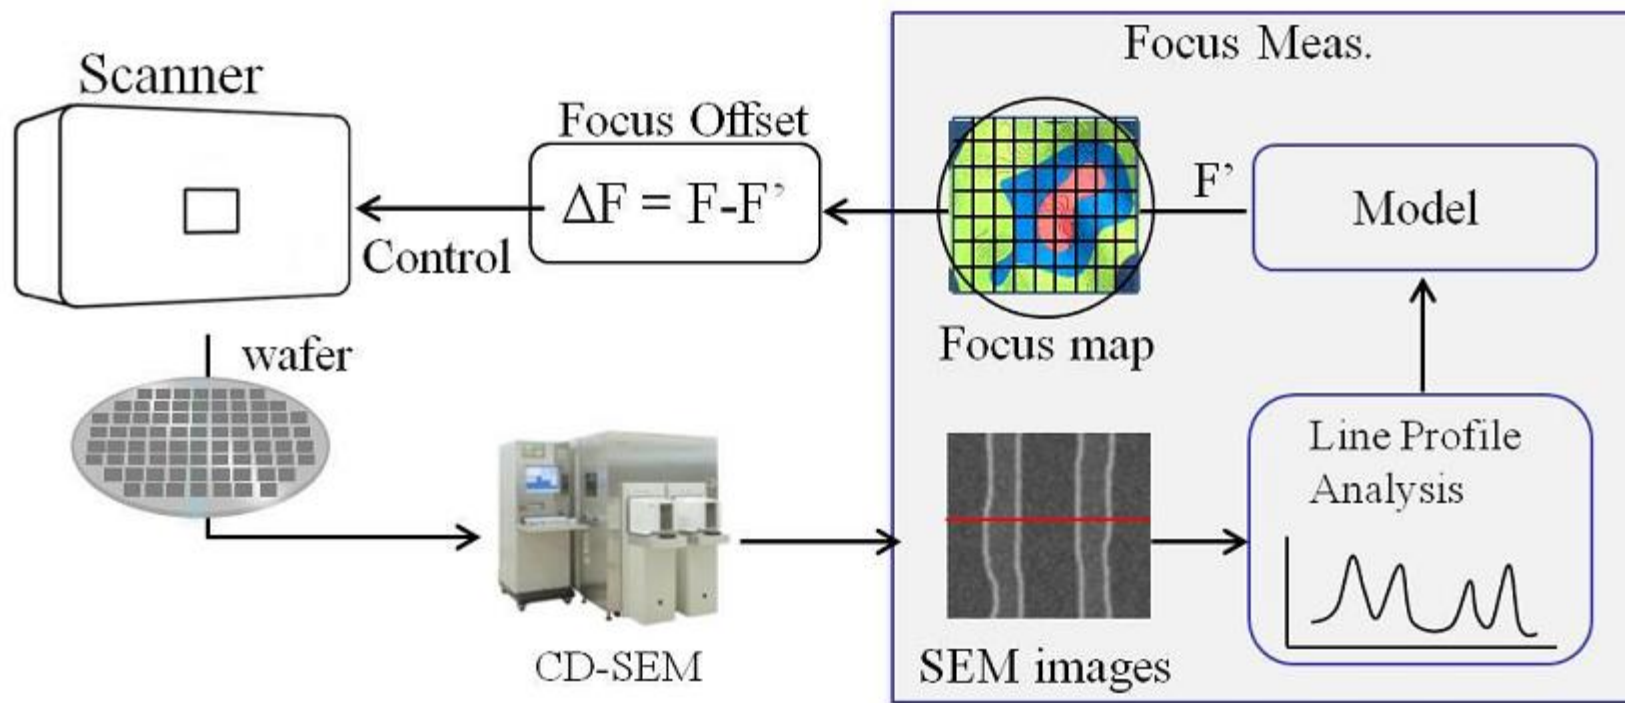

Figure1. Focus measurement for scanner control
Fig. 1: The evolution in the number of pixels exposing the substrate with VSB principle. Left: conventional VSB, Middle: Cell or character projection (CP), to be used in combination with VSB, Right: Multi Shaped Beam: an array of independently controllable variable shaped beams